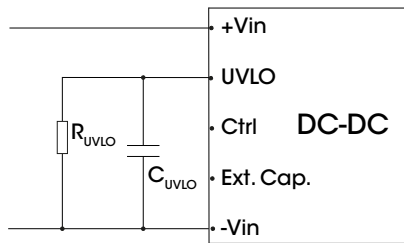

Figure 11. Recommended circuit for undervoltage-lockout adjustment
3. The UVLO pin can adjust the point of input under-voltage protection by the external resistance R_{UVLO} , for the value of R_{UVLO} , please refer to Fig. 11. If the pin is open circuit, the point of input under-voltage protection is 11 V.
- The resistance R_{UVLO} sets the undervoltage protection point, for the value of R_{UVLO} , please refer to Fig. 11.